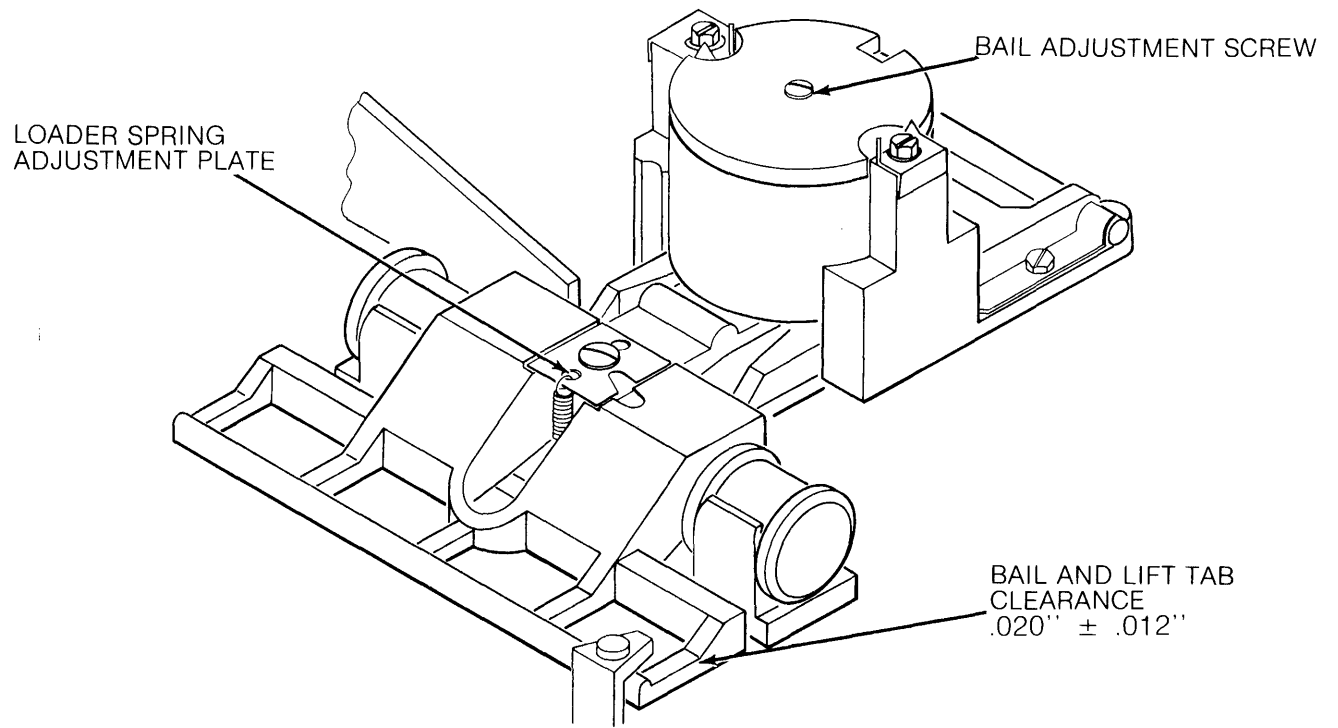

FIGURE 37. HEAD LOAD MECHANISM ADJUSTMENT
- b. Select the drive and insure the head is loading. With the head loaded a clearance of $.020'' \pm .012''$ should be obtained between the bail on the head load solenoid and the lift tab on the head arm (see Figure 37). To adjust this clearance turn the screw located on top of the armature (see Figure 37). Clockwise will decrease the clearance and counter-clockwise will increase the clearance.
- (3) If the read signal begins sooner than 35 msec loosen screw holding the loader spring adjustment plate. Slide plate towards the solenoid body (see Figure 37). If the read signal begins after 50 msec, slide the plate away from the solenoid body.